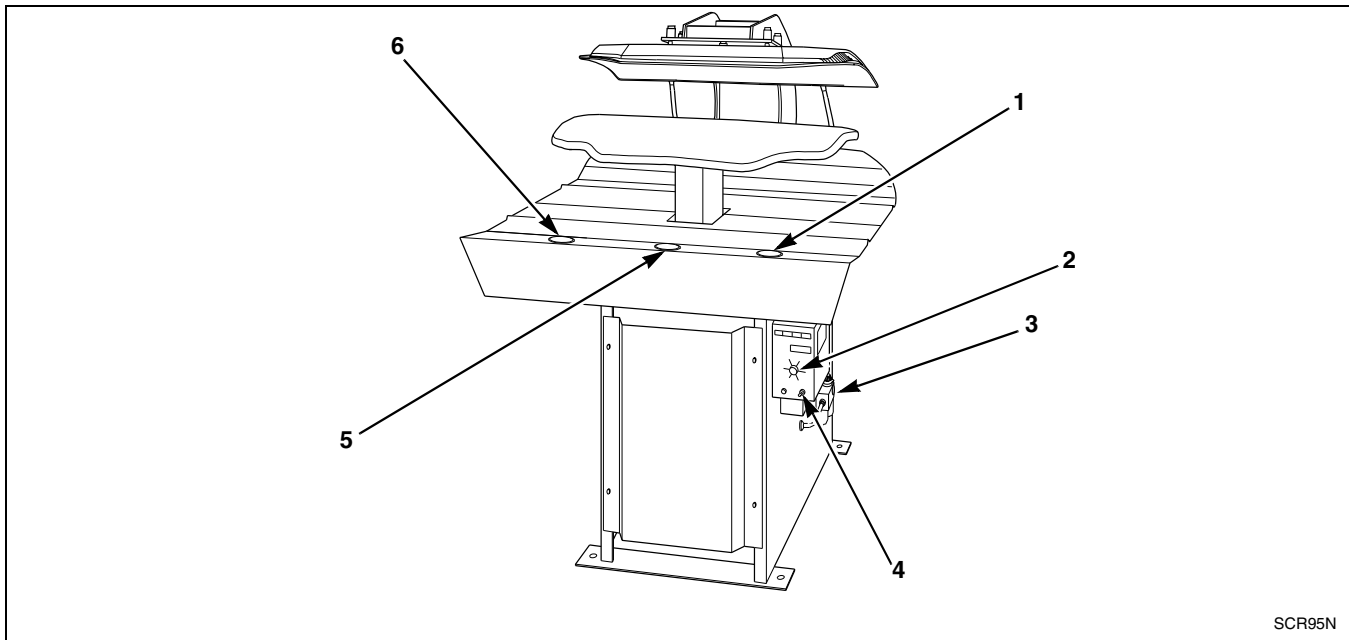

Figure 2
3. Simultaneously push and hold both CLOSE pushbuttons (Items 1 and 6, *Figure 2*) until head is closed against buck.
5. Push OPEN pushbutton (Item 5, *Figure 2*). Head should open.
2. If press is equipped with a timer, place switch (Item 4, *Figure 2*) in OFF position.
4. Simultaneously push and hold both CLOSE pushbuttons (Items 1 and 6, *Figure 2*) until head closes and pressing pressure is applied. Release both pushbuttons.
5. Once garment is sufficiently pressed, press OPEN pushbutton (Item 5, *Figure 2*) to open press.
2. Place timer switch (Item 4, *Figure 2*) in the ON position.
3. Set time selector knob (Item 2, *Figure 2*) to desired time.
5. Simultaneously push and hold both CLOSE pushbuttons (Items 1 and 6, *Figure 2*) until head closes and pressing pressure is applied. Release both pushbuttons.
NOTE: Head can be opened at any time during timer controlled pressing by pressing OPEN pushbutton (Item 5, Figure 2).